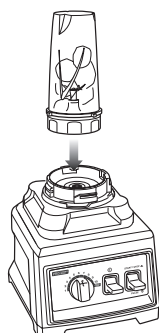
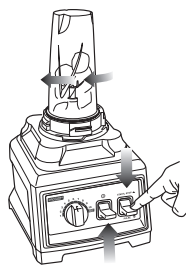

Fig. 10
Fig. 11
- 5 Turn the Nutri Ninja cup upside down and place it onto the motor base, aligning the tabs on the cup with the motor base. (Fig. 10) Turn clockwise until the cup locks in place, the unit is ready for use. (Fig. 11)
Press down on the "Start/Stop/Pulse" toggle in short intervals until you have reached your desired consistency. (Fig. 11)